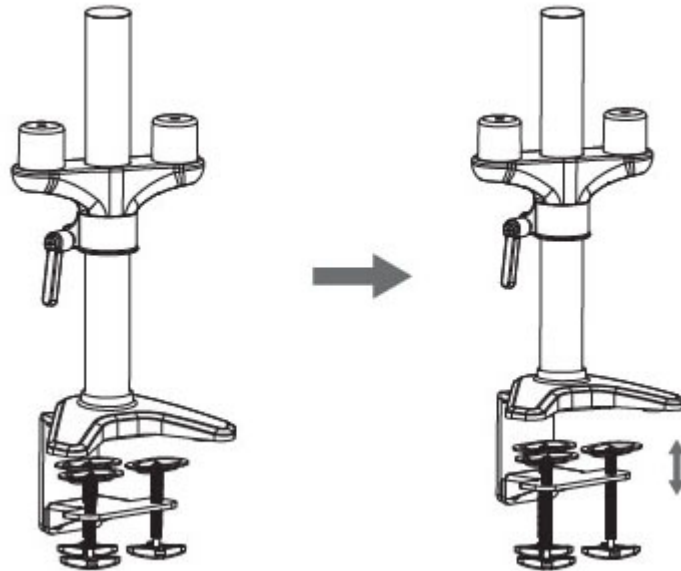

Figure 1
1. Position the Tube Support to the desktop. Loosen the clamp screw according to the thickness of the desktop, see **Figure 1**.